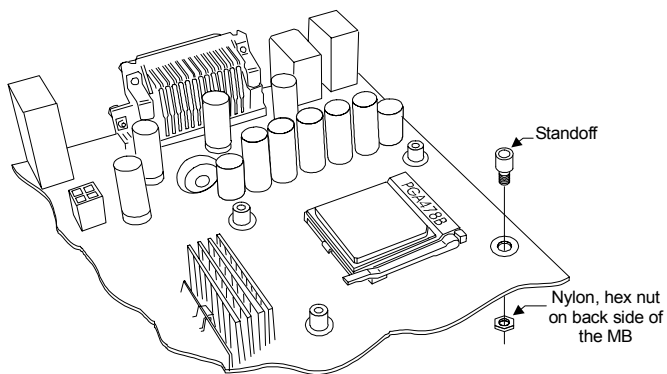
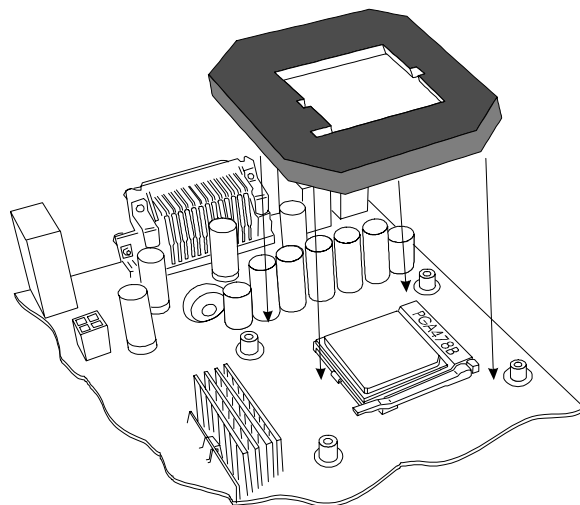

Figure 1
Figure 2
- Remove the peel-off paper back from the motherboard gasket, and install it as shown Figure 2. The sticky side should be towards the motherboard.
The following applies mostly to dual processor installations. Depending on the orientation of the socket, it is critical to observe the position in which your water-block is oriented for bleeding purposes. Assuming that the computer is standing up, and that the water-block is facing you as shown in Fig.1 and Fig 2. below, Fig. 1 shows the two positions in which the MCW478-UT will bleed correctly, and Fig. 2 shows the two positions in which the MCW478-UT will *not* bleed.
1. Bleed the water-block prior to installing on the CPU. Simply rotate the block in the position shown in Fig. 1.